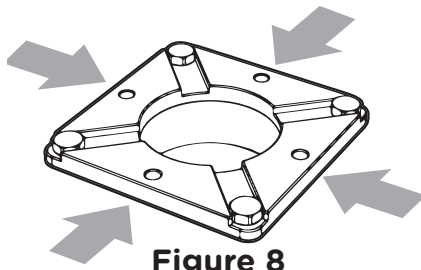

Figure 8
5. Install flooring around the floor flange as shown in Figure 8.